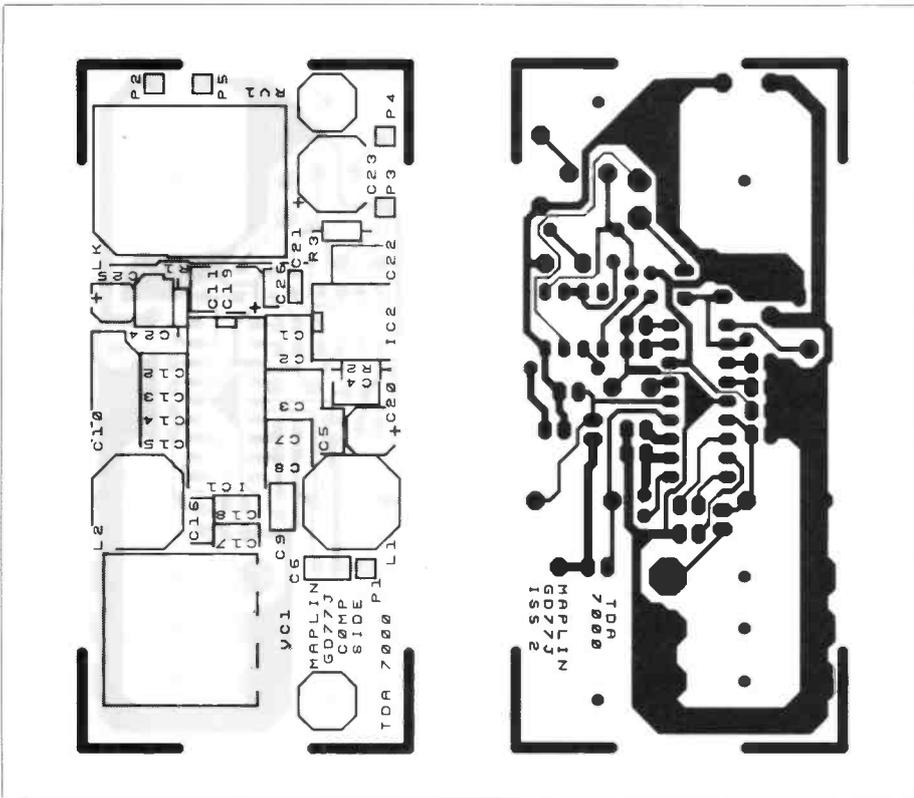

Figure 4. Track and Layout of the PCB
A suitable printed circuit layout for the radio appears in Figure 4. The TDA7000 is not one of the many radio IC's that tend to be unstable at every opportunity, and the low IF eliminates problems with harmonics of the clipped IF
However, on some capacitors the polarity is designated by a negative symbol (-) in which case the lead nearest this symbol goes away from the positive sign on the legend. **IMPORTANT!!** do not forget to fit the wire link (LK) on the PCB. Using a short length of insulated hook-up wire, connect one end at the hole near R3 and the other to the hole near C25, see Figure 4. Next, install the two IC's ensuring that you fit the appropriate IC in each position, matching the notch with the block on the legend. When fitting the two RF coils ensure that the correct colour coil is positioned as follows, red at L1 and white at L2. Also make certain that the two long plastic tags are facing each other.